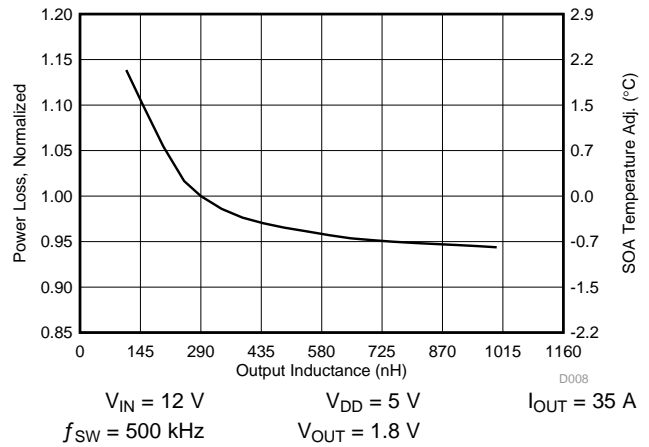

Figure 11. Normalized Power Loss vs Output Inductance
- Normalized power loss for output inductor  $\approx$  1.01 (Figure 11)
- SOA adjustment for output inductor  $\approx$  0.25°C (Figure 11)